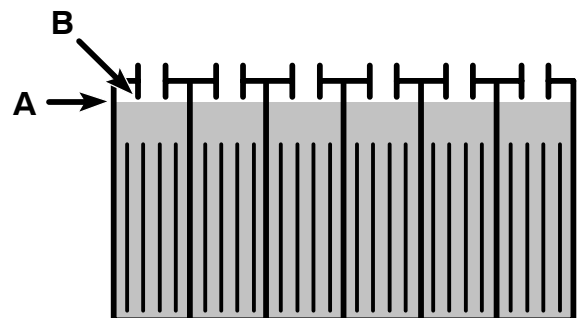

FIG. 37
- Lead Acid Batteries: After charging, check the electrolyte level (A) again. The level should be approximately 1 cm from the bottom of the fill-port (B) (Figure 37). Add distilled water if needed. DO NOT OVERFILL.